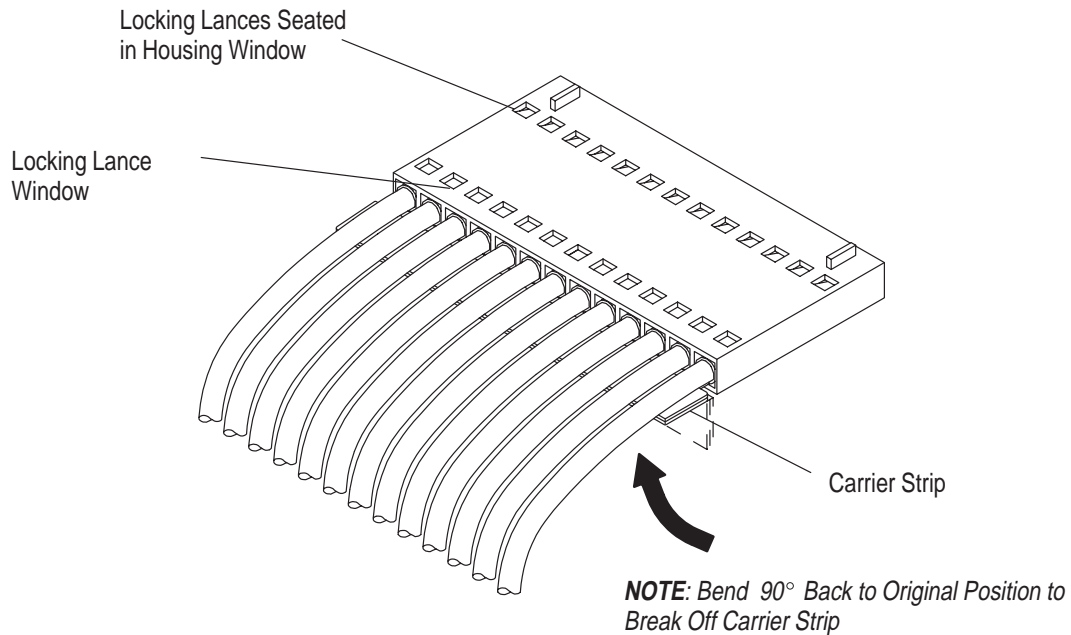

Figure 15
6. Rotate the housing downward to bend the carrier strip at an angle to the connector assembly. See Figure 15.